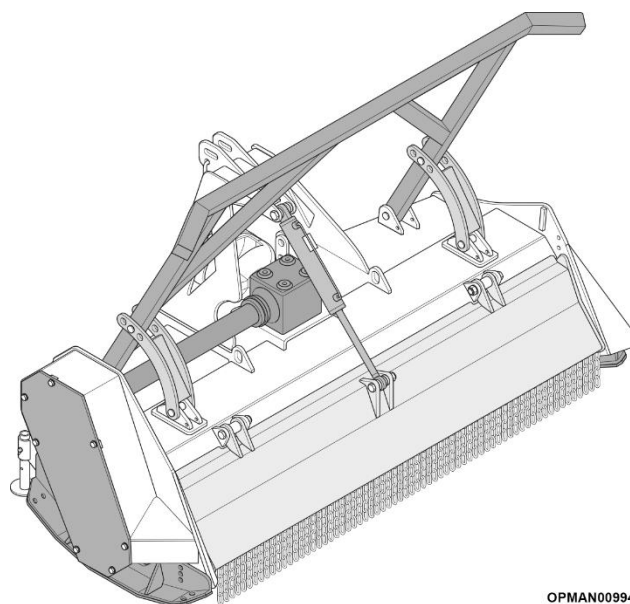

Figure 14
- Use the specific supporting feet in the parking position (Figure 14).